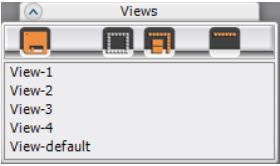

Fig. 337 – features in View pane
- select a position on the list of views (Fig. 337) by a single left-click (e.g. **View 1**);